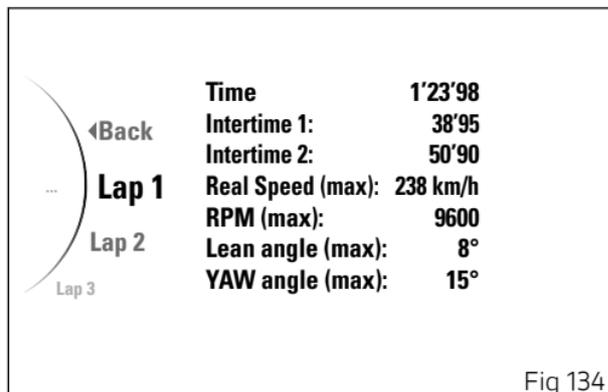

Fig 134
To view the LAPs memorised in one session, select the desired session and press the ENTER button (3). The display will show all the LAPs recorded in the selected session (Fig 134).